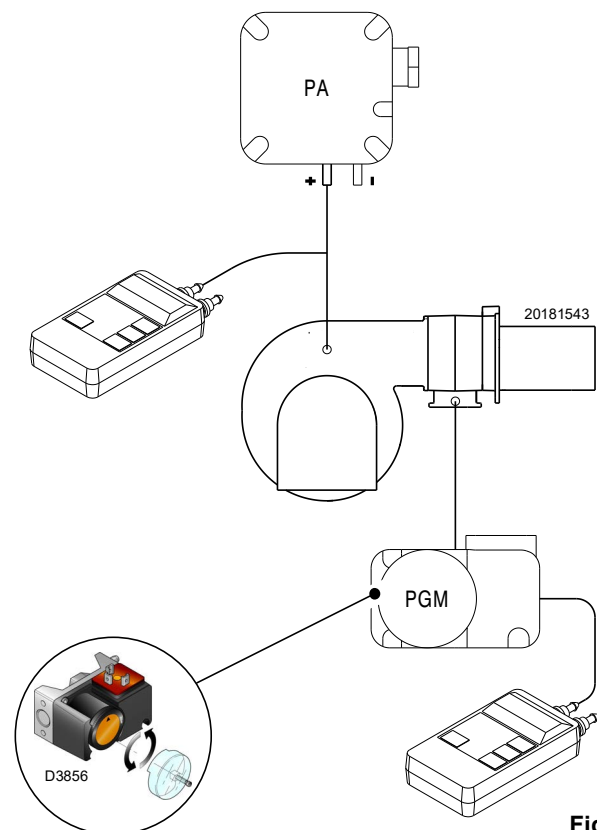

Fig. 28
- Adjust the maximum gas pressure switch (Fig. 28 at page 30) to the end of the scale.
Adjust the maximum gas pressure switch (Fig. 28) after making all other burner adjustments with the maximum gas pressure switch set to the end of the scale.